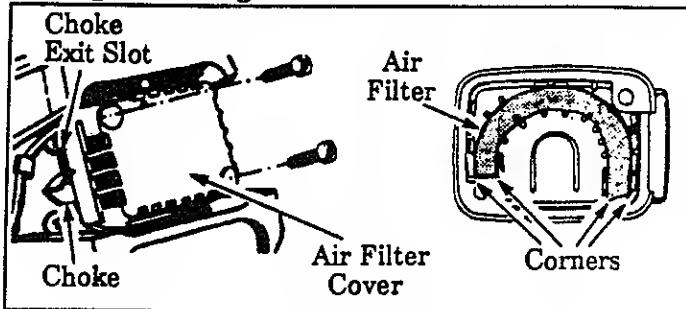

Figure 24
- a. Loosen the two Screws on the Air Filter Cover enough to remove the Cover from the Engine. Figure 24.
- b. Remove the Air Filter from the Cover. Figure 24.
5. Reinstall the Air Filter Cover, making sure the Choke Exit Slot (Figure 24) is placed over the Choke Lever.